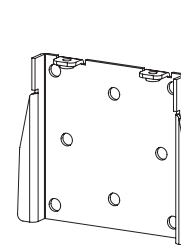

Figure 11
- 4) Mount part "B" of the bracket to the wall at the chosen speaker location. Be sure that the bracket is oriented with the two tabs with threaded holes toward the top of the bracket (See Figure 11). If you are sure there is a stud behind the wall at the chosen location, drive from 2 to 8 #10 screws (not included) through the wall and into the stud. If there is no stud behind the wall at the chosen location, install from 2 to 8 #10 wall anchors (not included) into the wall by following the anchor manufacturer's instructions. For masonry walls, use a masonry drill bit and #10 masonry anchors and screws (not included).